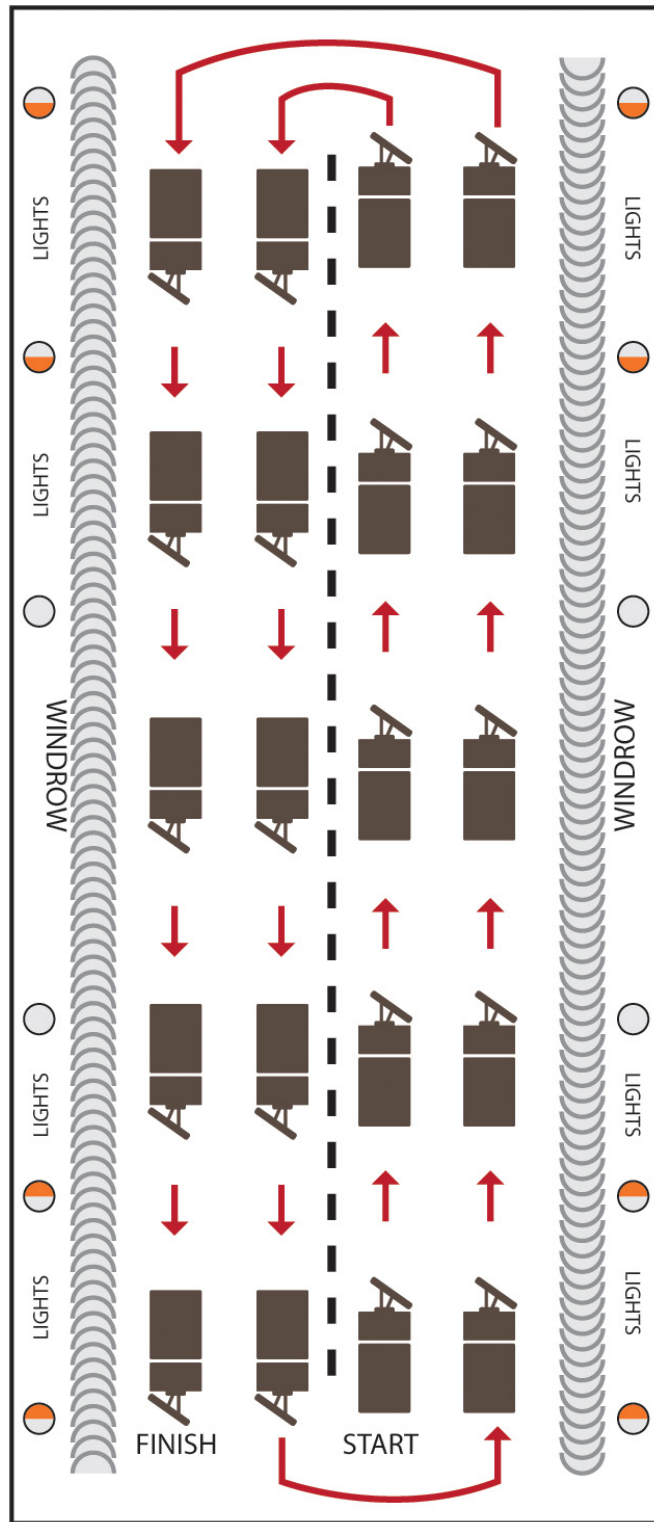

Figure 3
- 1. Split the Runway** – This is the fastest, safest, and preferred method for removing the snow on the runway. Plowing lengthwise, you start in the middle of the runway and move the snow to the right towards the edge lights. (*see figure 3*) (Plowing to the right is helpful because many of the graders have a wing blade on the right side allowing you to make use of this attachment). Once you reach the end of the runway, lift your blade and turn around. Still plowing to the right, proceed down the opposite side of the centerline moving the snow towards the edge lights. Continue doing circles moving the snow from the center of the runway to the edges of the runway.